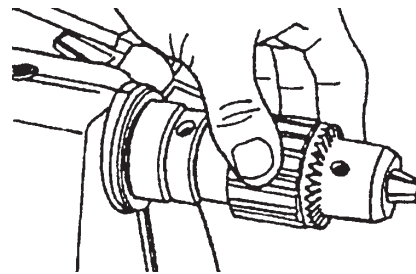

Figure 107
3. Completely close the Chuck Jaws, as in Figure 107.